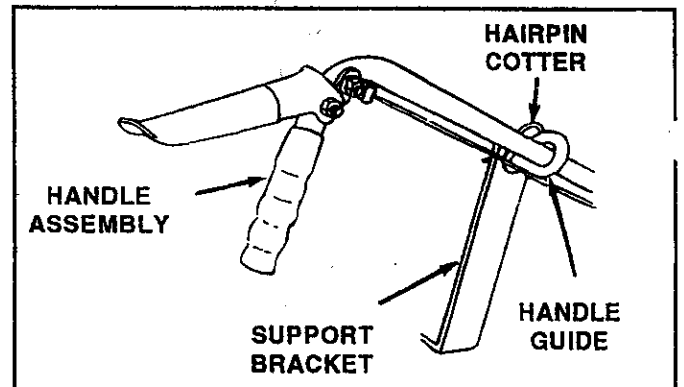

FIGURE 34
- H. Refer to figure 34 and remove hairpin cotter from end of handle guide to release handle assembly from tractor.